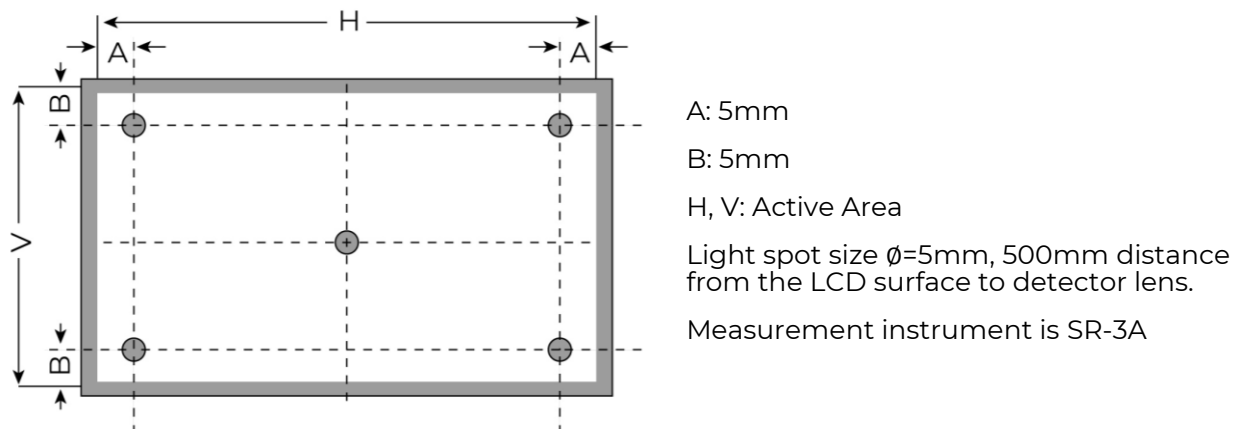

Figure 2. Measuring method for Contrast ratio, surface luminance, Luminance uniformity, CIE (x, y) chromaticity
**Note 1.** Contrast Ratio (CR) is defined mathematically as below, for more information see Figure 2.
**Note 2.** Surface luminance is the LCD surface from the surface with all pixels displaying white at 100% backlight. For more information see Figure 2.
**Note 3.** The uniformity in surface luminance  $\delta$  WHITE is determined by measuring luminance at each test position 1 through 5, and then dividing the minimum luminance of 5 points luminance by maximum luminance of 5 points luminance. For more information see Figure 2.